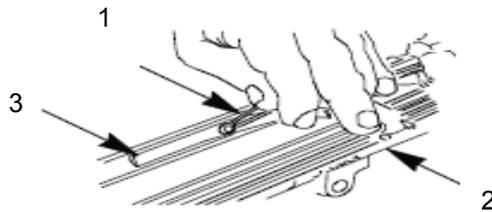
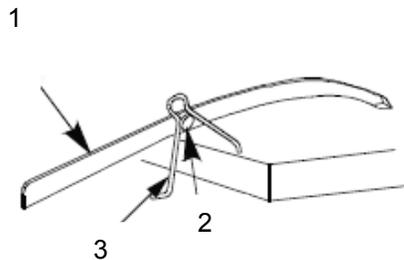
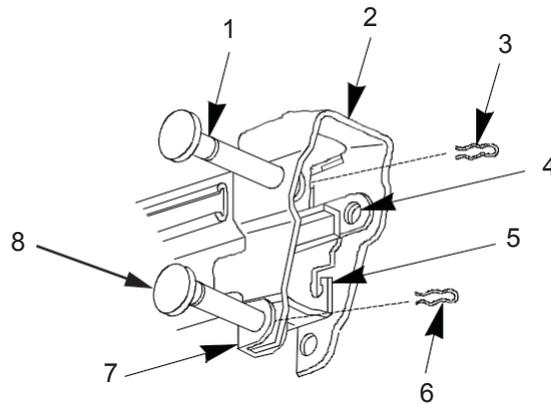

Figure 1. Retaining Clip, Receiver, Ejector.
Figure 2. Ejector, Retaining Clip, Cartridge Ejector Pin.
Figure 3. Retaining Clips Headed Grooved Pin.
1. Compress retaining clip (Figure 1, Item 1) loose from receiver (Figure 1, Item 2) and lift ejector (Figure 1, Item 3) from receiver (Figure 1, Item 2).
2. Remove retaining clip (Figure 1, Item 1) and cartridge ejector pin (Figure 2, Item 1) from cartridge ejector (Figure 3, Item 1). Discard retaining clip (Figure 2, Item 3).
4. Remove and discard retaining clips (Figure 3, Item 3) and (Figure 3, Item 6) from headed grooved pin.
5. Remove headed grooved pin (Figure 3, Item 1) from receiver assembly (Figure 3, Item 2).
6. Remove headed grooved pin (Figure 3, Item 8) and retaining clip (Figure 3, Item 7) from receiver assembly (Figure 3, Item 2).
- h. Inspect for elongation and cracks of the take down pin hole (Figure 3, Item 4) in the inner rail, at the rear of the receiver in areas indicated, both sides.
- i. Inspect for cracked or bent transfer mechanism assembly catches/hooks (Figure 3, Item 5) inside the receiver, both sides.